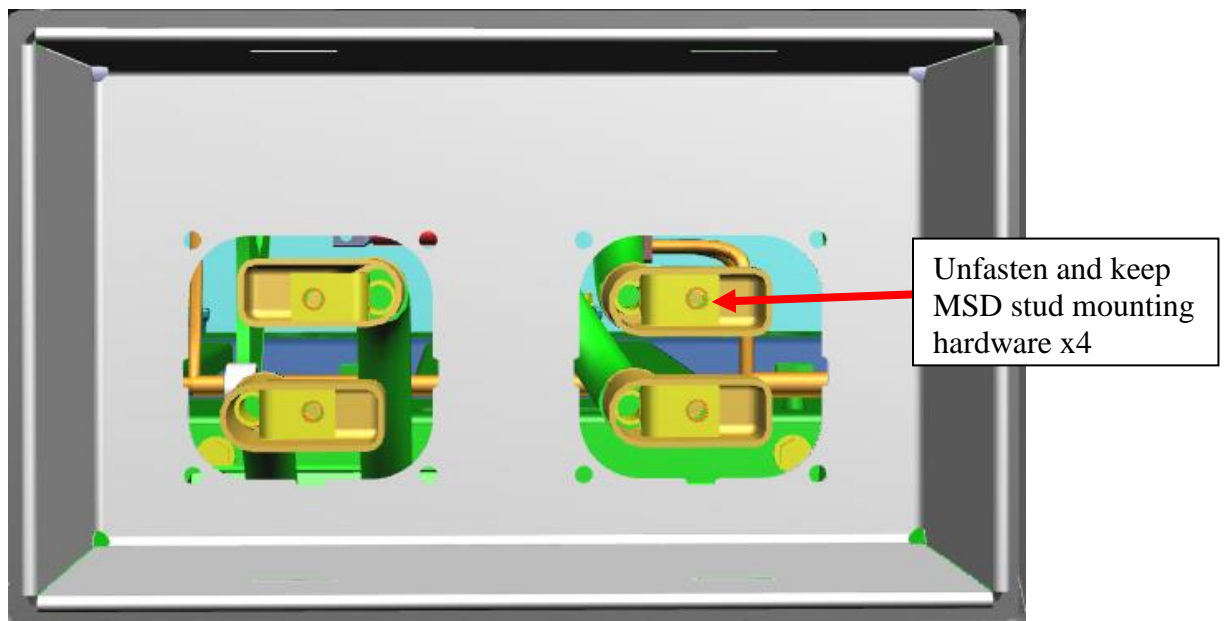

Figure 15: Rear ESS MSD Receptacle underside
- 4.2 Unfasten nuts from MSD receptacle studs x4 and keep hardware. Remove and discard MSD receptacles x2. See figure 15.